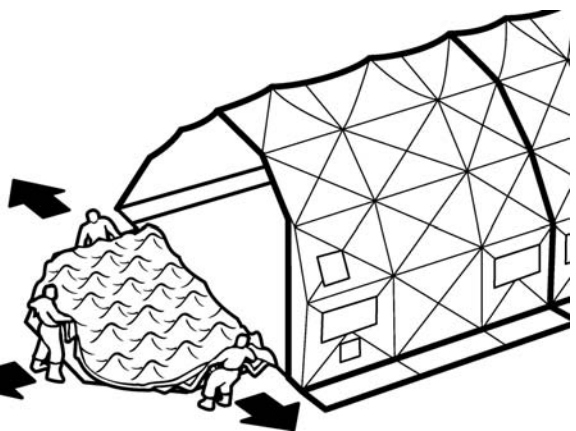

Figure 2-11 - Lift & Spread the End Section
8. On command, continue to lift the End Section at the highest point of the strut, step backward, and spread as shown in Figure 2-11.